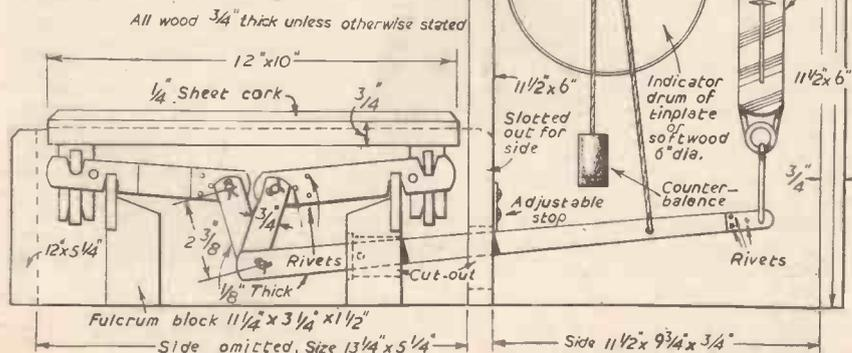
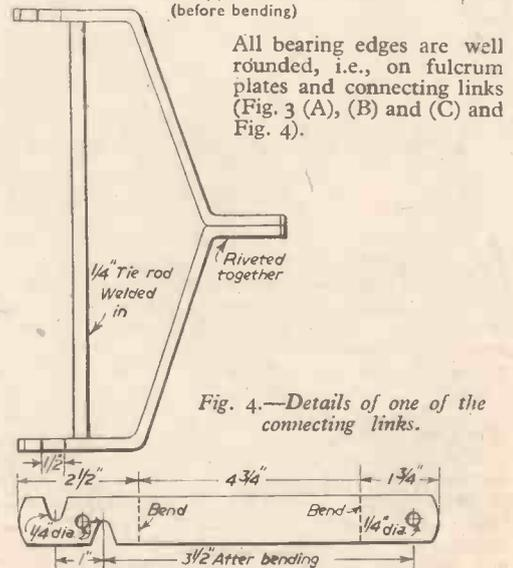

Fig. 3 (Right).—Details of fulcrum plates and connecting links.
Fig. 4.—Details of one of the connecting links.
All bearing edges are well rounded, i.e., on fulcrum plates and connecting links (Fig. 3 (A), (B) and (C) and Fig. 4).